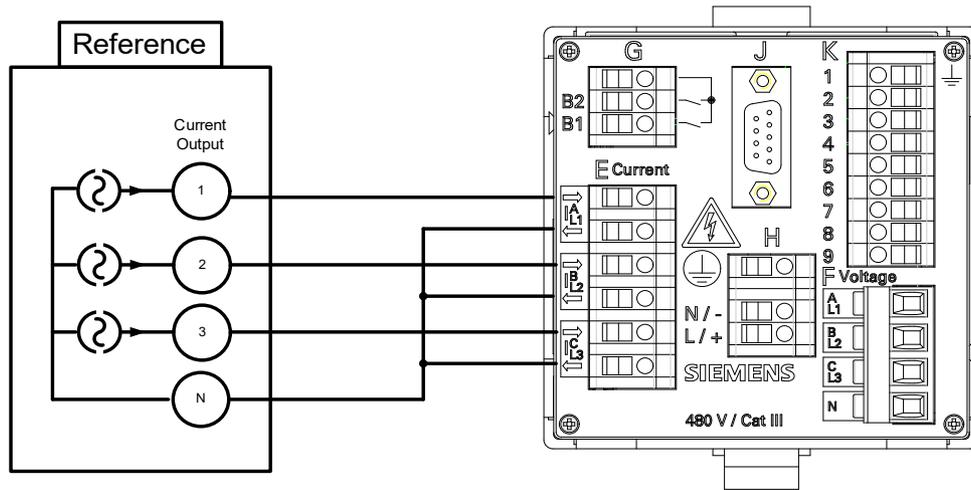

Figure 11-4 Measurement Setup for Calibrating the AC Current Measuring Range
Calibration is only possible with symmetrical phases ($3 \times 120^\circ$), see Figure 11-4.
- ◇ Set up the measurement as shown in Figure 11-4.